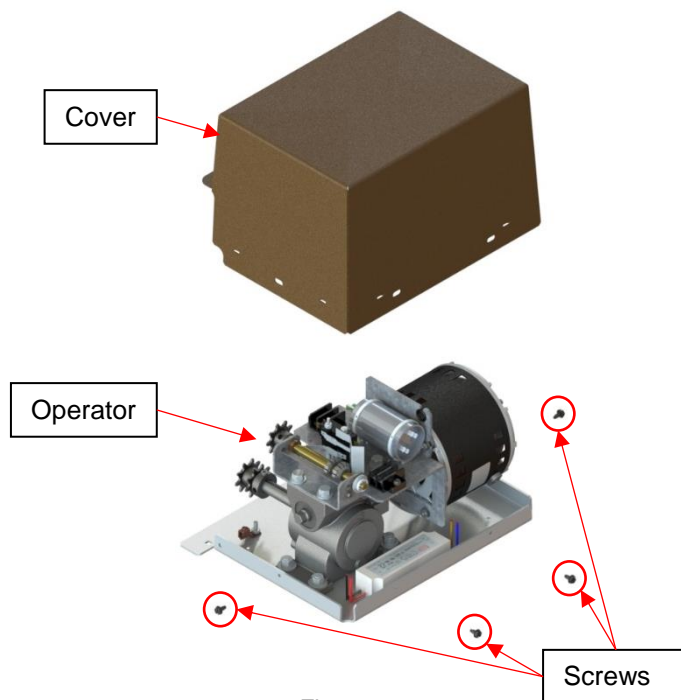

Figure 11
- 2) Remove the four screws at the bottom of the operator cover and take the cover off. (Figure 11)
- 6) Reinstall the operator cover with the four screws. (Figure 11)